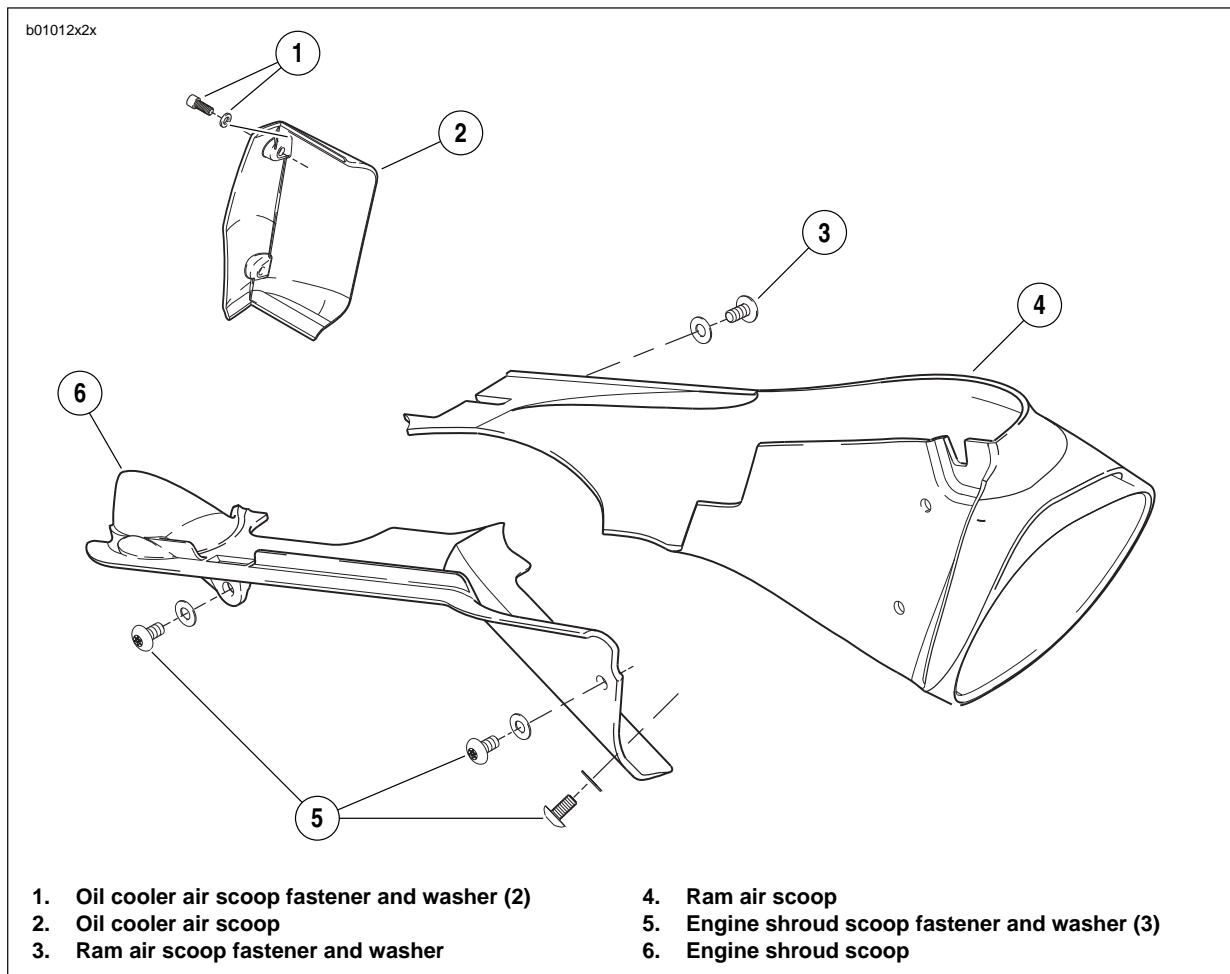

Figure 2-118. Ram Air Scoop, Engine Shroud, Oil Cooler
1. See Figure 2-118. On left side of bike, locate ram air scoop (4).
2. Remove three ram air scoop fasteners (3).
3. Remove ram air scoop (4).
1. See Figure 2-118. Position ram air scoop (4).
2. Install ram air scoop (4) with three fasteners (3). Tighten to 12-36 **in-lbs** (1-4 Nm).
1. See Figure 2-118. On right side of bike, locate engine shroud air scoop (6).
2. Remove three engine shroud air scoop fasteners (5).
3. Remove engine shroud air scoop (6).
1. See Figure 2-118. Position engine shroud air scoop (6).
2. Install engine shroud air scoop (6) with three fasteners (5). Tighten to 12-36 **in-lbs** (1-4 Nm).
1. See Figure 2-118. On left side of bike, locate oil cooler air scoop (2).
2. Remove two oil cooler air scoop fasteners (1).
3. Remove oil cooler air scoop (2).
1. See Figure 2-118. Position oil cooler air scoop (2).
2. Apply LOCTITE 271 (red) to oil cooler air scoop fasteners (1) and tighten to 48-72 **in-lbs** (5.4-8 Nm).